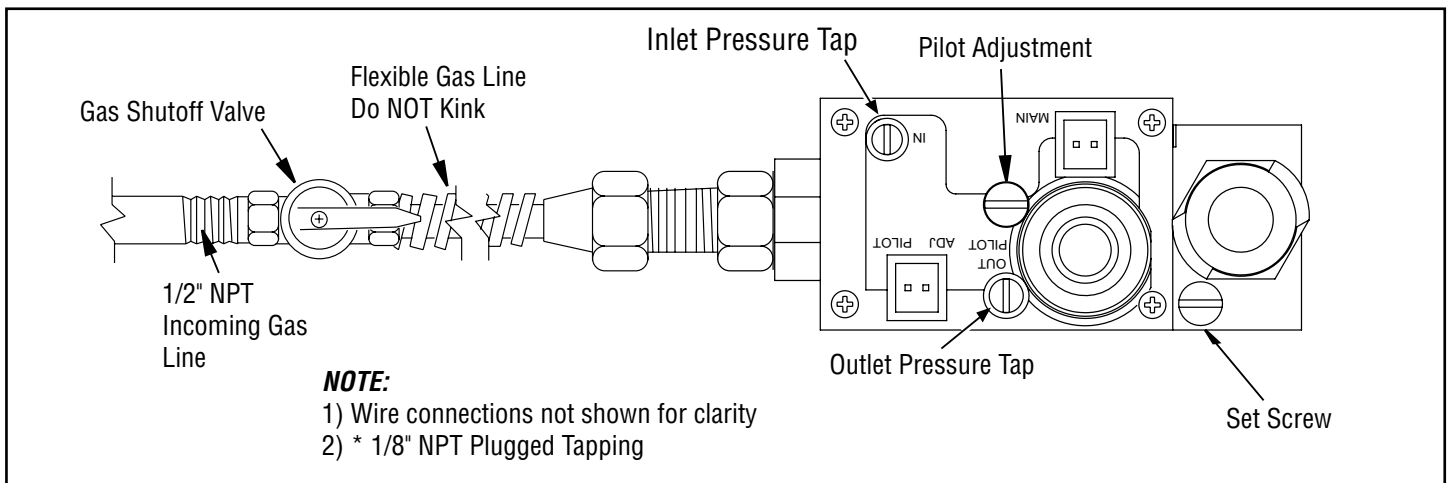

Figure 29 - Connecting Incoming Gas Line to Flex Gas Line
2. Attach flexible gas line from gas supply to control valve (see **Figure 29**).